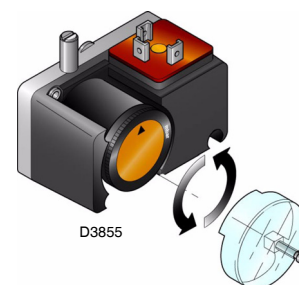

Fig. 26
- Adjust the pressure switch for the valve leak detection control device (PVP Kit) (Fig. 26), if present, according to the instructions supplied with the Kit itself.